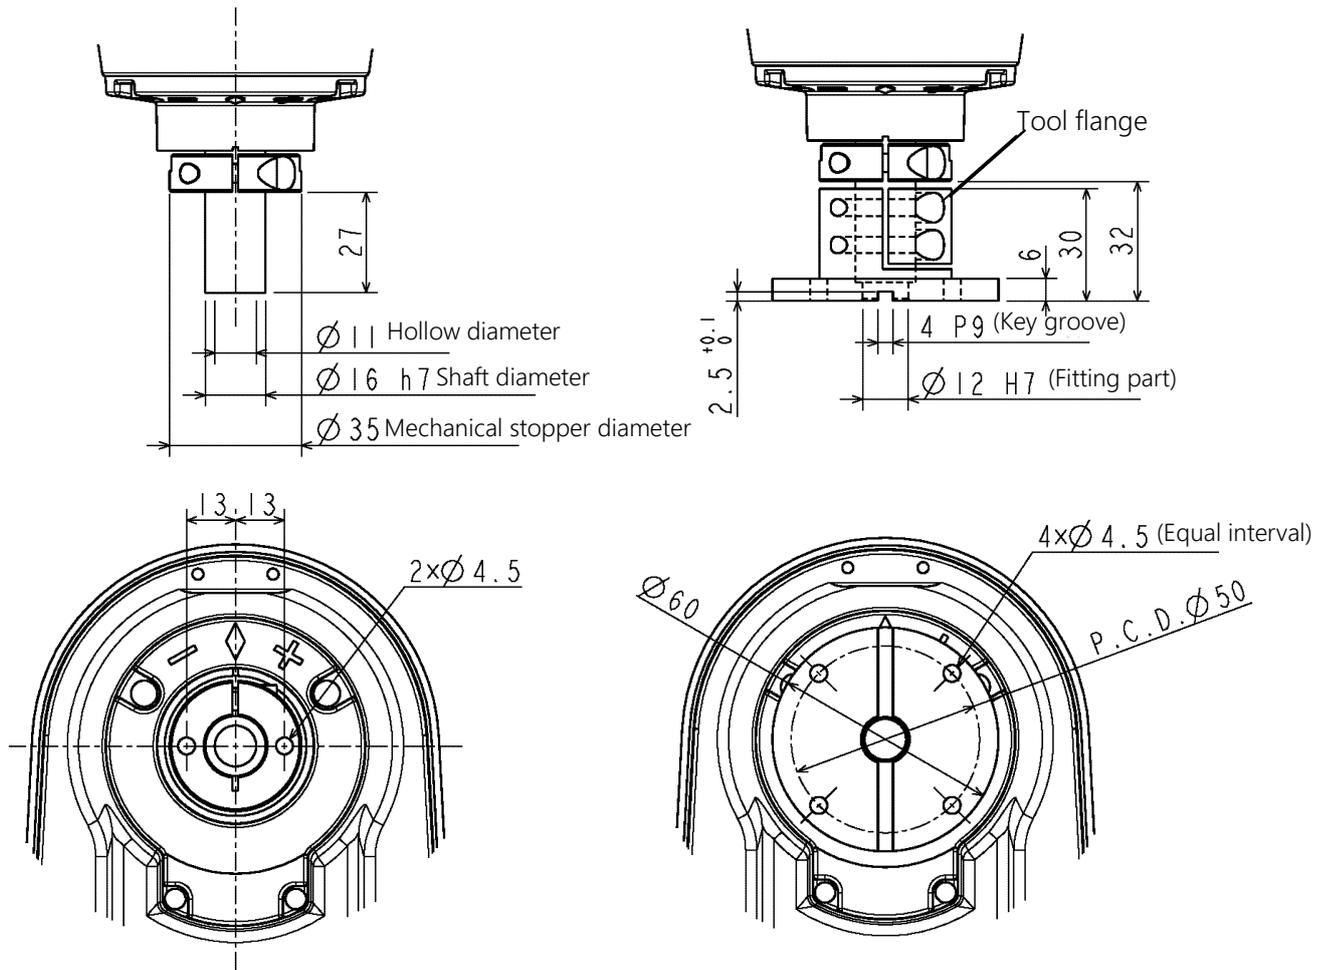

Fig. 4.1 Hand mounting dimensions
The hand is to be mounted on the lower end of the shaft or the tool flange. Fig. 4.1 shows the dimensions of the lower end of shaft and the tool flange. If the hand is mounted on the tool flange, the tool is centered with the $\phi 12H7$ mating section. The hand direction is adjusted by means of the 4 x 4 keys and secured with four (4) M4 bolts. The tool flange is optional.